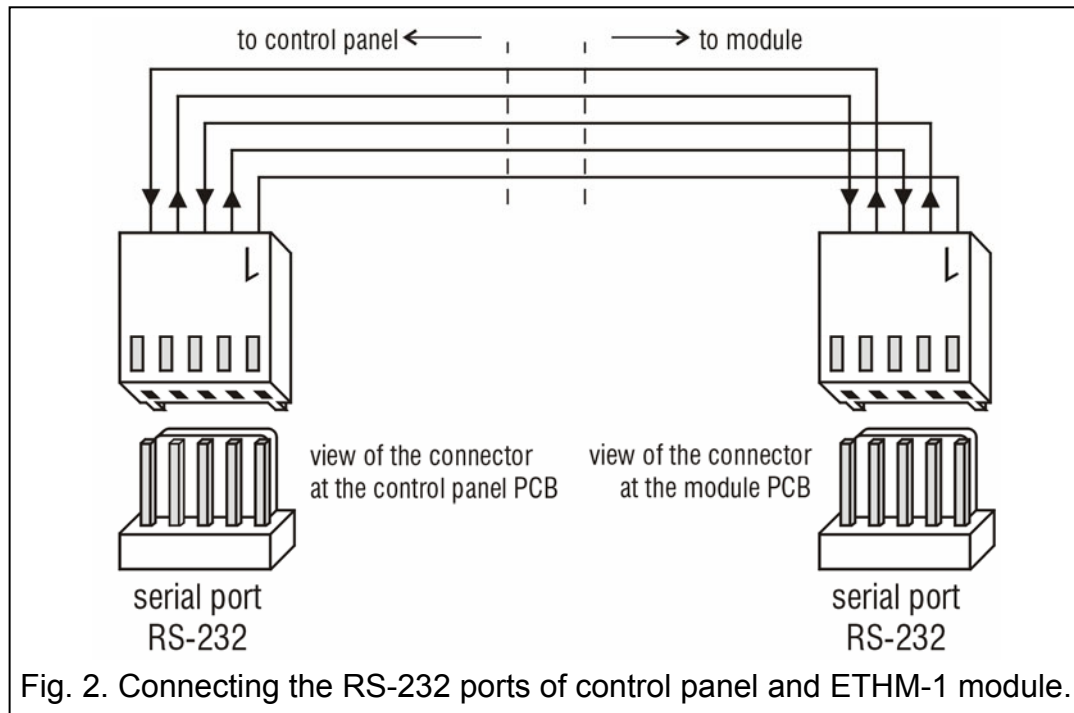

Fig. 2. Connecting the RS-232 ports of control panel and ETHM-1 module.
5. If the control panel is to be operated via the network by means of the DLOADX program, connect the RS-232 ports of module and control panel with a cable made according to Fig. 2.